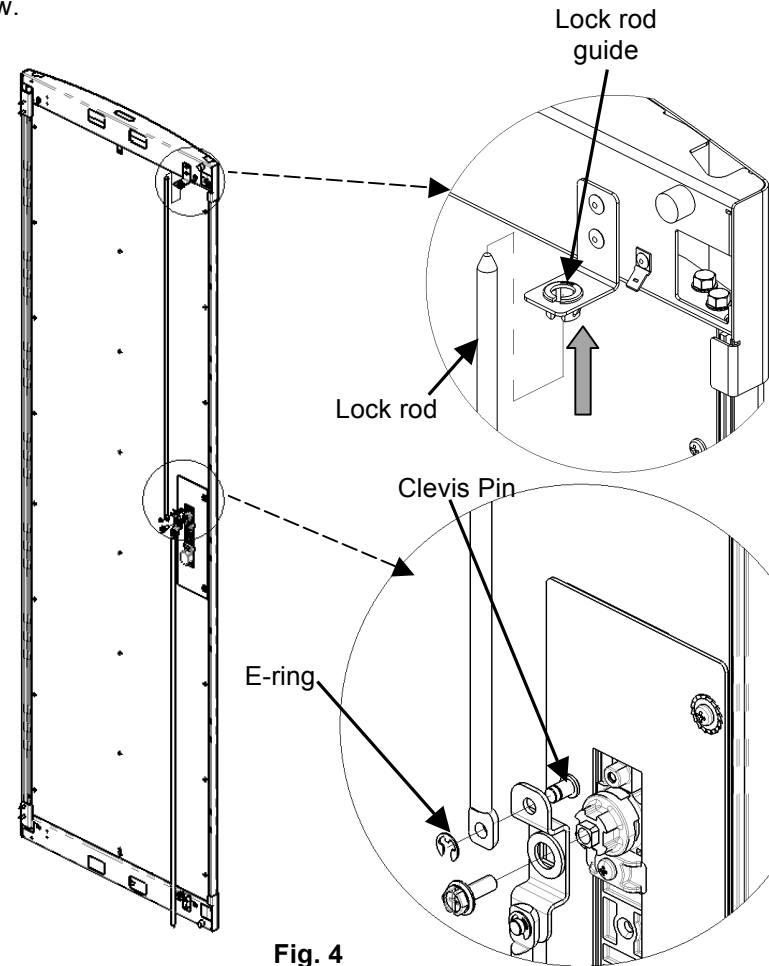

Fig. 4
8. Insert the lock rods through the guides, with the short rod on the top and the long rod on the bottom (Fig. 4).
9. Insert the cam assembly pins through the short rod (on top) and the long rod (on bottom), then through the other half of the cam assembly (Fig. 4).